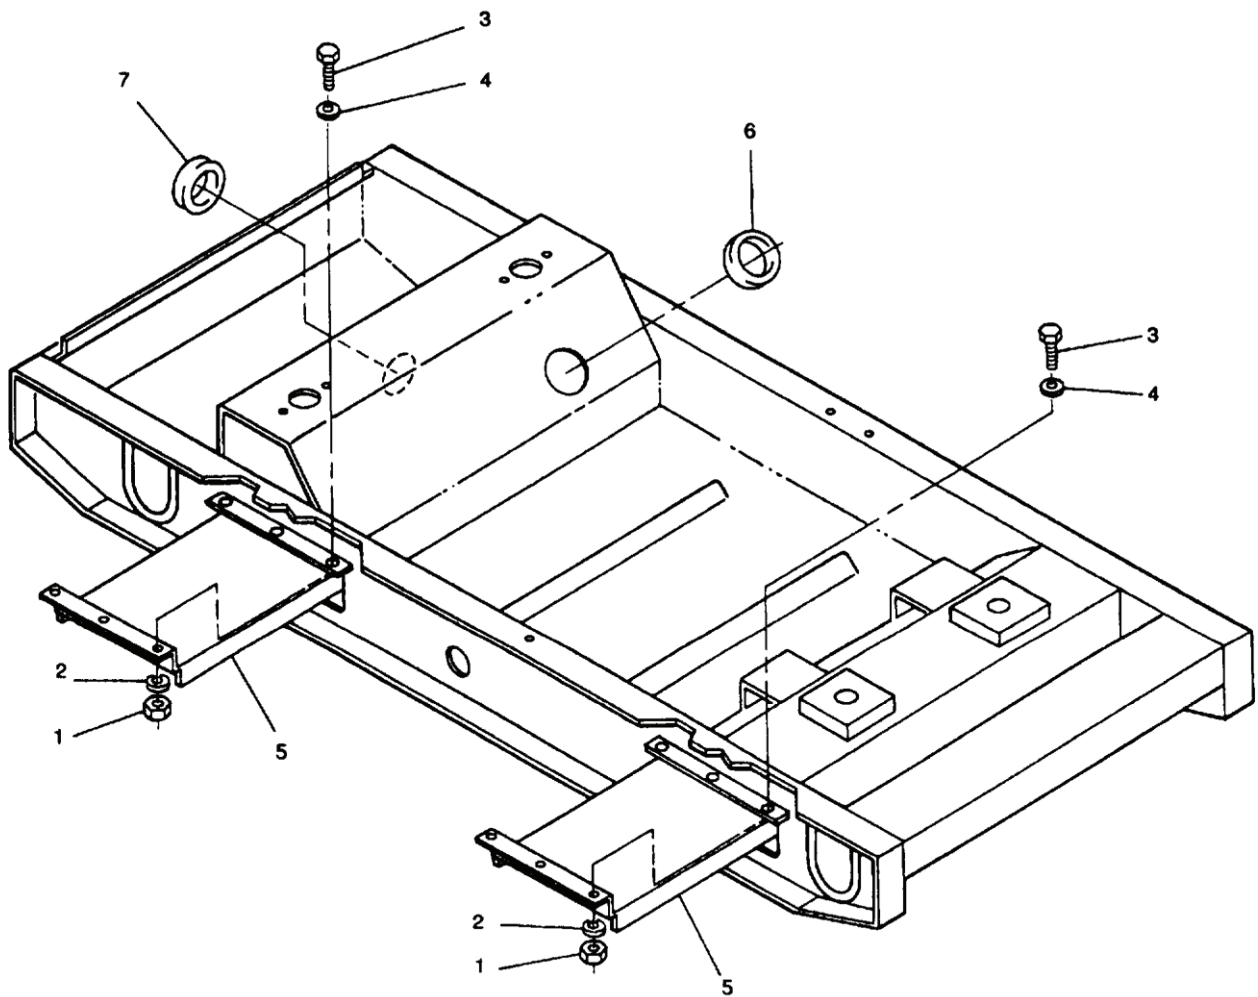

Figure 1. Skid Base.
4. Remove nuts (Figure 1, Item 1), lockwashers (2), bolts (3), washers (4), and forklift guides (5) from skid base. Discard lockwashers (2).
1. Install forklift guides (Figure 1, Item 5) in skid base with bolts (3), washers (4), new lockwasher (2), and nuts (1).